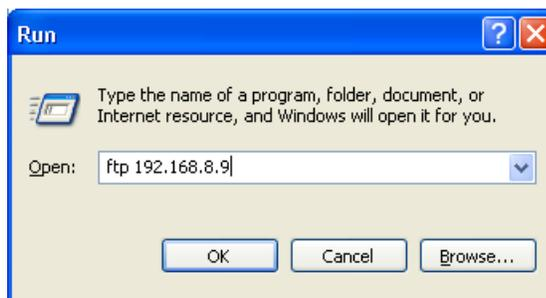

Figure 7-6: Run Window for FTP Access
5. FTP into the EQT using the following command. Replace 192.168.8.9 with the unique IP of your device as shown in Figure 7-6. Login as user **root** and Password **evertz**.